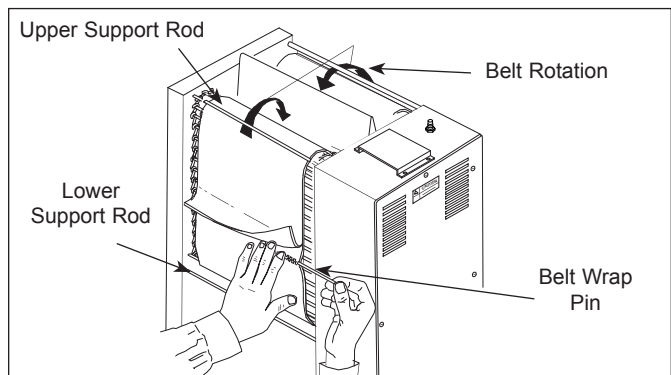

Figure 10. Installing Belt Wrap
6. Install the new Belt Wraps around the Conveyor Belt Chains inside the Upper and Lower Support Rods with the zipper flap exposed and hanging down (Figures 10 & 11). Attach Belt Wrap clips (if present) to large links evenly.